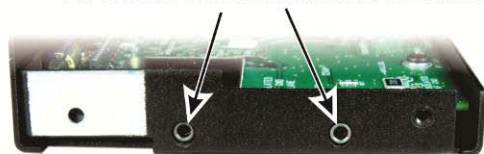

Figure 46. Installing RF Board in the Bottom Cover.
□ Bend the wire attached to the antenna connector upward so it will be above the RF board after it is installed. Place the RF board in the bottom cover as shown in Figure 46. Put the end of the board with the shield into the bottom cover first so the connectors on the bottom of the board fit into the openings in the end of the cover. Bend the lead to the antenna connector up as shown. When the board is lying flat against the standoffs secure it with the hardware shown.